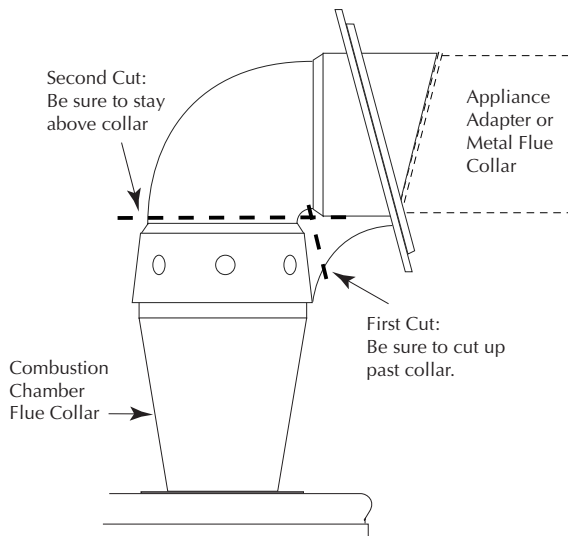

Figure 4-3
5. Disconnect the vent pipe from the Metal Flue Collar or the Appliance Adapter (see Figure 4-3).
6. Remove the plastic Vent Body and the flue collar or Appliance Adapter with three cuts from a reciprocating saw (see Figures 4-3 and 4-4). Use a 6"x24t bi-metal blade.